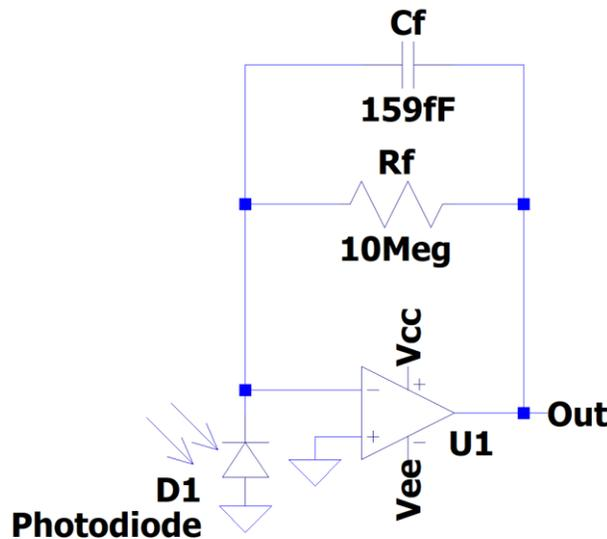
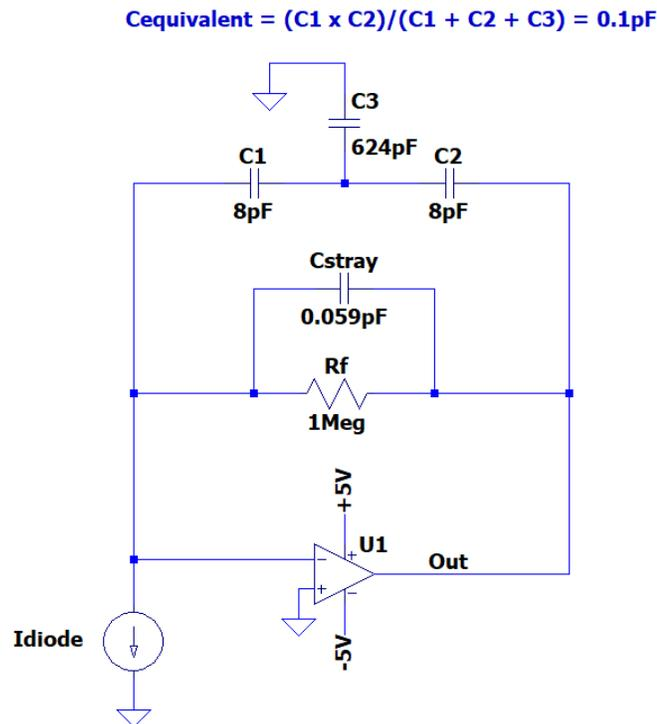
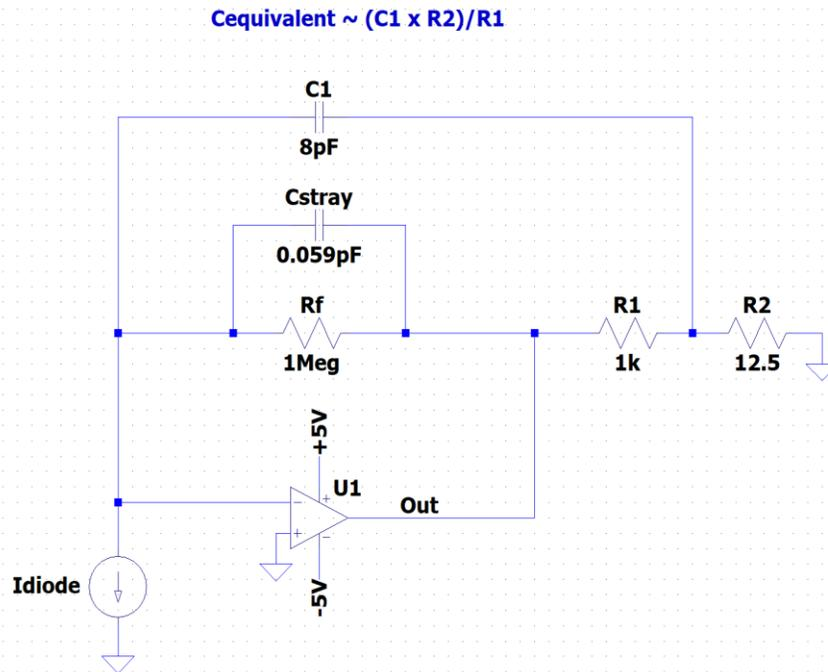

Figure 1: Simple Circuit, High-Gain, High Bandwidth TIA (the photodiode has inherent capacitance across it)
Figure 2: High-gain, high BW TIA with capacitor-Tee (the photodiode has inherent capacitance across it)
Figure 3: High-gain, high BW TIA with capacitor/resistor divider (the photodiode has inherent capacitance across it)
Knowing that the RC time constant of the feedback network sets the bandwidth, you calculate the required feedback capacitor (C_f) to be 159fF where $C_f = 1 / (2\pi \times 1M\Omega \times 1MHz) = 159fF$. See Figure 1.
- 1) Capacitor-Tee Method:** See Figure 2. The addition of C_1 , C_2 , and C_3 creates an equivalent capacitance between the op amp output and the inverting input based upon this formula: $C_{equivalent} = (C_1 \times C_2) / (C_1 + C_2 + C_3)$. With the values shown, $C_{equivalent}$ equals 100fF. $C_{equivalent}$ is in parallel with the stray capacitance and therefore creates a total feedback capacitance with a value of 159fF which meets the original design requirement.
2) **Capacitor/Resistor Divider Method:** See Figure 3. Here, the effective feedback capacitance is reduced by the resistor divider fraction of R1 and R2. The equivalent capacitance is calculated by this formula: $C_{\text{equivalent}} = \sim C1 \times R2/R1$. Again, with the values shown, $C_{\text{equivalent}}$ equals 100fF, and the total feedback capacitance is 159fF.
So which method is better? With a sufficient op amp gain-bandwidth product, both methods yield the same -3dB roll-off frequency as the simple circuit of Figure 1. However, the addition of the extra components does add more overall output noise due to voltage gain. In simulations with the values shown (using ideal op amps), the capacitor-Tee is $\approx 2.4\%$ noisier than the simple circuit, and the capacitor/resistor divider is $\approx 2.5\%$ noisier than the simple circuit. This is good news, because essentially, one has to pay only a small penalty to have a realizable C_f . In Figure 2, if C1 & C2 are reduced to 4pF, C3 then becomes 152pF, and the noise percentage reduces to approximately 0.7%. The same is true in Figure 3 when C1 changes to 4pF and R2 to 25 Ω , then the noise reduces to approximately 0.8%. So, the comparison really depends on the voltage noise gain of the two circuits—which depends on the actual component values.